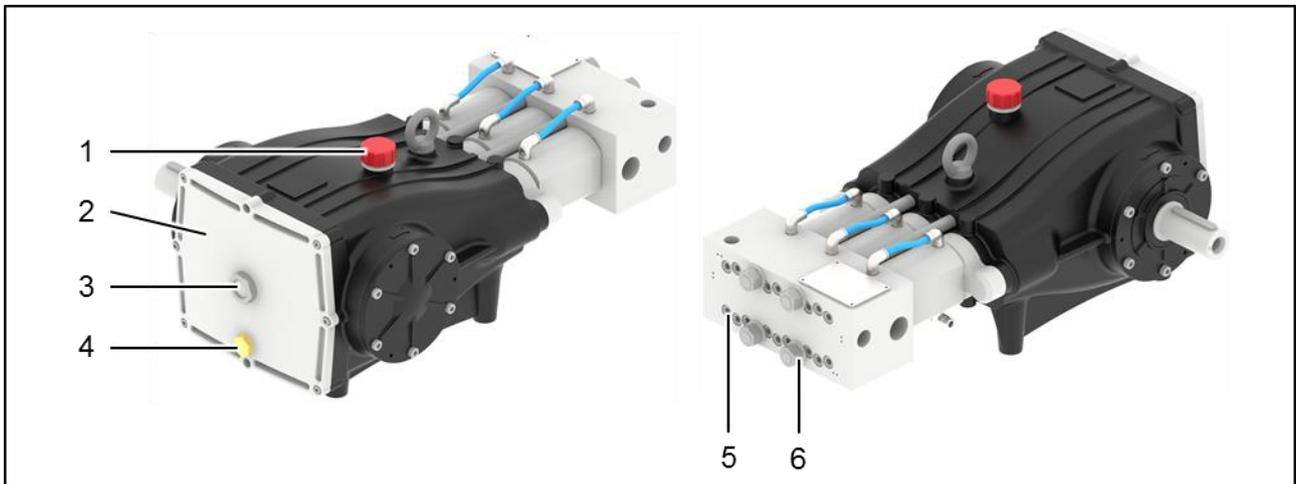

Figure 16: Components to be checked
1. Place an adequately-sized oil collecting pan to collect the old oil under the drain plug (Figure 16: 4).
2. Open the drain plug (Figure 16: 4).
3. Unscrew the oil filling plug (Figure 16: 1).
6. Open the gearbox cover if the oil contains a lot of metal residue (Figure 16: 2) and check the inside of the gearbox for possible damage.
7. Screw the drain plug (Figure 16: 4) back into the housing.
10. Fit the gearbox cover (Figure 16: 2) tightly back on to the housing if it has been opened.
11. Fill up the specified amount of oil (Tabelle 7: Oil quantities) as per the specification (Tabelle 13: Oils) at the oil filling plug (Figure 16: 1).
12. Check the oil level at the oil sight glass (Figure 16: 3).
13. Screw the oil filling plug (Figure 16: 1) back in.